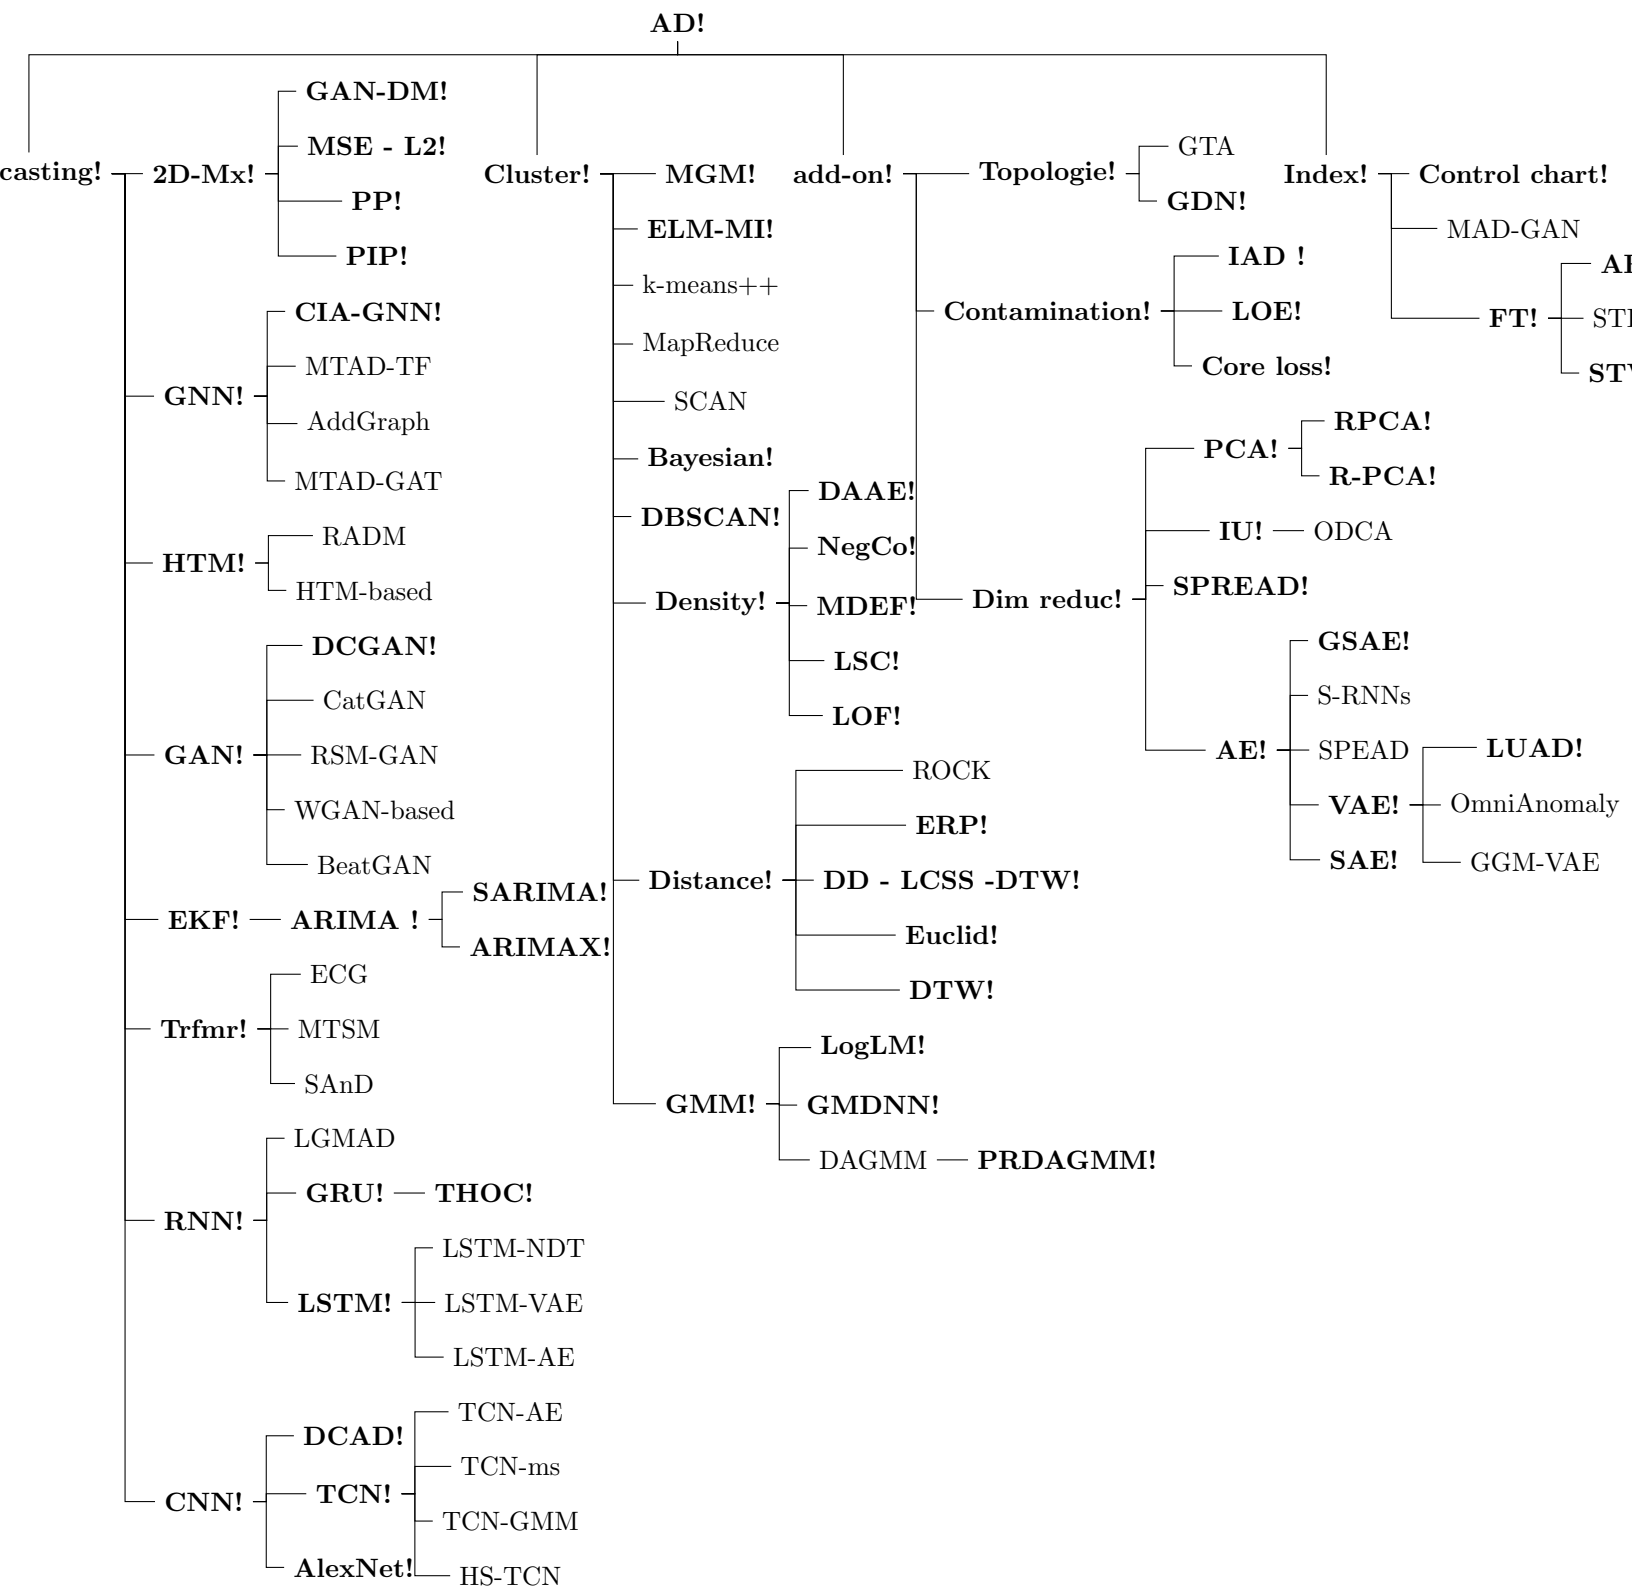

Figure 1: Anomaly detection method categorization
**AD!** methods can be categorized in many ways [6]. In this paper is divided in two parts (cf Figure 1), general methods and useful tricks to improve theses. The former represents general ways to solve the **AD!** problem. It is composed of three categories: forecasting (Sec 0.1), clustering (Sec 0.2) and index monitoring (Sec. 0.3). The latter are so-called add-ons (Sec 0.4). The papers in this category present an **AD!** method with some tricks that, in our minds can be applied to any method to improve it.